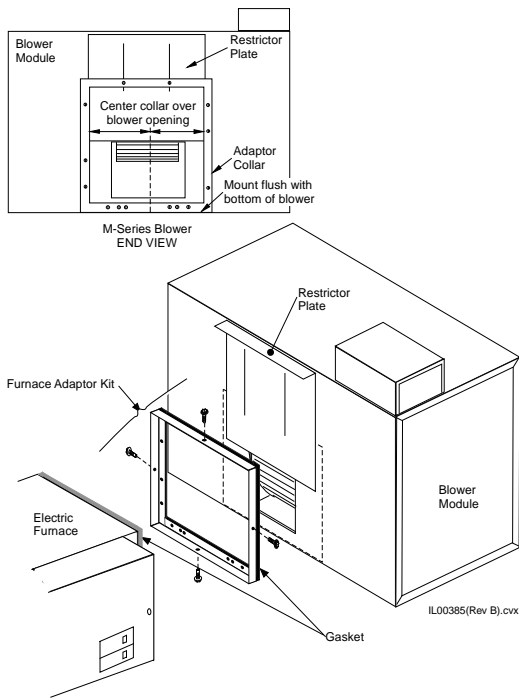

Figure 2. Furnace Installation
1. Attach the adapter collar to the air handler centering the collar horizontally over the blower opening and flush with the bottom of the blower. Use the #10 x 3/8" type AB sheet metal screws located inside the bulletin packet shipped with the blower module to attach the adapter collar to the air handler. Leave the top of the unit clear of mounting screws to slide the restrictor plate in place. Slide the restrictor plate behind the adapter collar to the full open position (see Figure 2).